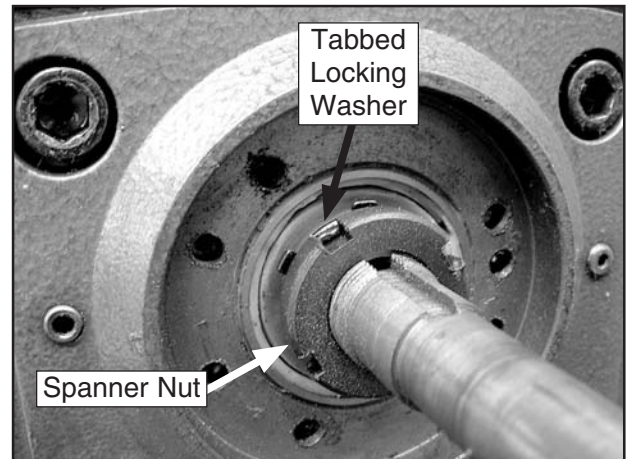

Figure 93. Y-axis lead screw spanner nut and tabbed locking washer.
10. Straighten the bent tab of the locking washer from the spanner nut, and remove both the spanner nut and washer (see **Figure 93**).